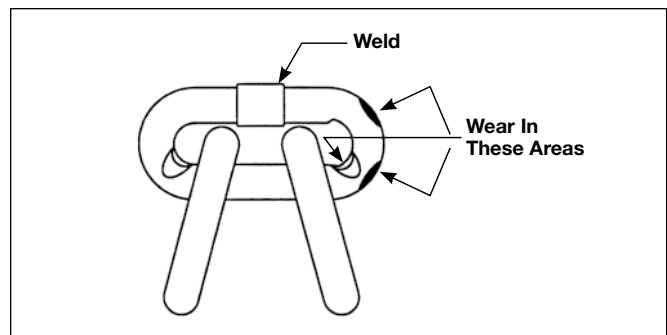

Figure 6 - Chain Inspection
1. Chain for excessive wear or stretch (See Figures 6 and 7, page 8).